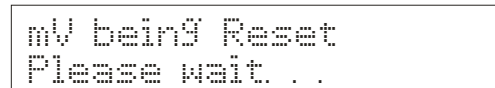

Figure 127
- If you selected **Yes**, the screen flashes *mV being Reset, Please wait...* See **Figure 127**. The meter then returns to setup mode.